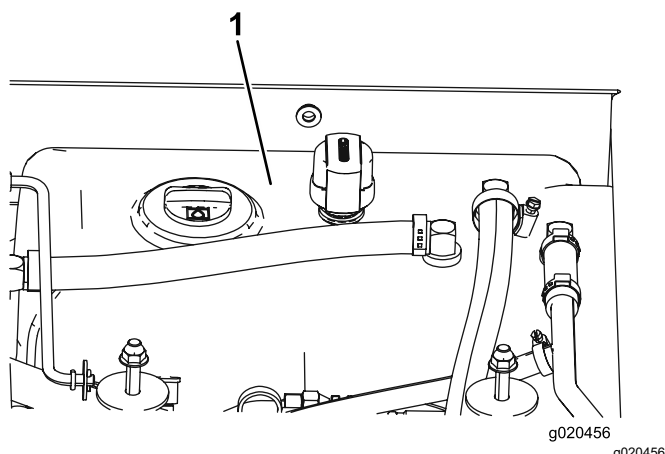

Figure 80
4. Fill the reservoir (Figure 80) with hydraulic fluid; refer to Checking the Hydraulic Fluid (page 65).